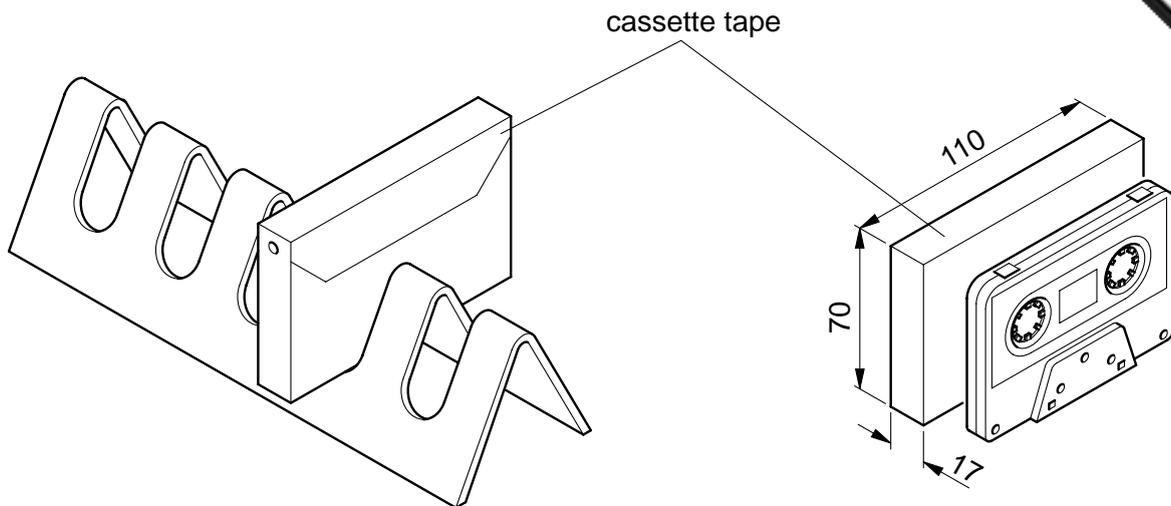

Fig. 9
- 8 Fig. 9 shows a design for a cassette tape storage rack.